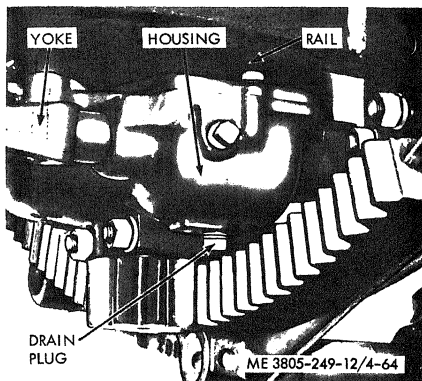

Figure 4-64. Circle centershift control housing.
(2) Start the engine. Engage the circle centershift clutch and sideshift the rack until it disengages the pinion. Shut down the engine.
(3) Attach a suitable hoist and lift the rack from the rail.
(4) Install the rack in the reverse order of removal.
(5) Adjust the centershift drive pinion-to-rack backlash (subpara c)
b. *Circle Centershift Control Housing Replacement.* Refer to figure 4-64.
(1) Remove the drain plug and allow oil to drain from the housing.
(1) Remove the drain plug (fig. 4-64) and allow the oil to drain. Clean and install the plug.